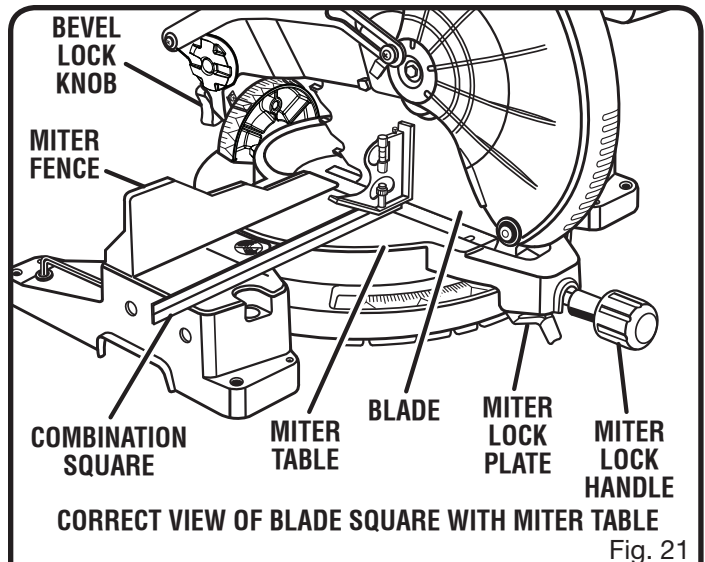

Fig. 21
- The edge of the square and the saw blade should be parallel as shown in figure 21.